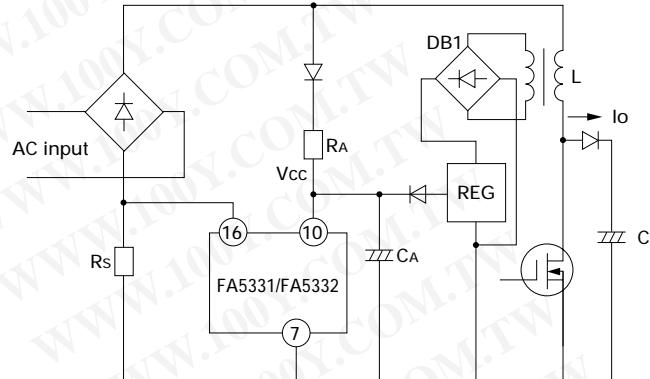

Fig. 9 Start circuit
Figure 9 shows a sample start circuit. Since the IC current while the Vcc pin voltage rises from 0V to VTHON is as small as 90μA (typ.), the power loss in resistor RA is small. If an additional winding is prepared in the voltage step-up inductor (L), power to the control circuit can be supplied from this circuit. However, the voltage must be stabilized by a regulator circuit (REG) to prevent an excess rise of the IC supply voltage (Vcc). Use fast or ultra-fast rectifier diodes for the rectifier circuit (DB1) of the winding for high-frequency operation.
Figure 9 shows the basic circuit of a voltage step-up type converter which is used as a power factor correction.